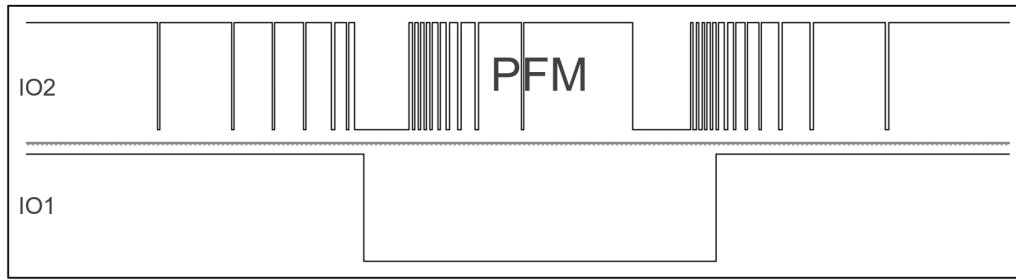

Figure 5.3: Movement (PFM) and Activation Output
- > ‘00’ - The default pulse frequency modulated (PFM) signal indicates intensity of movement by the density of pulses. This is a relatively slow output that may trigger occasional interrupts on the master side. See Figure 5.3. Most intense detectable movements are indicated by active low pulses with 10 ms width (20 ms period). Saturated movement intensity is indicated by a constant low.